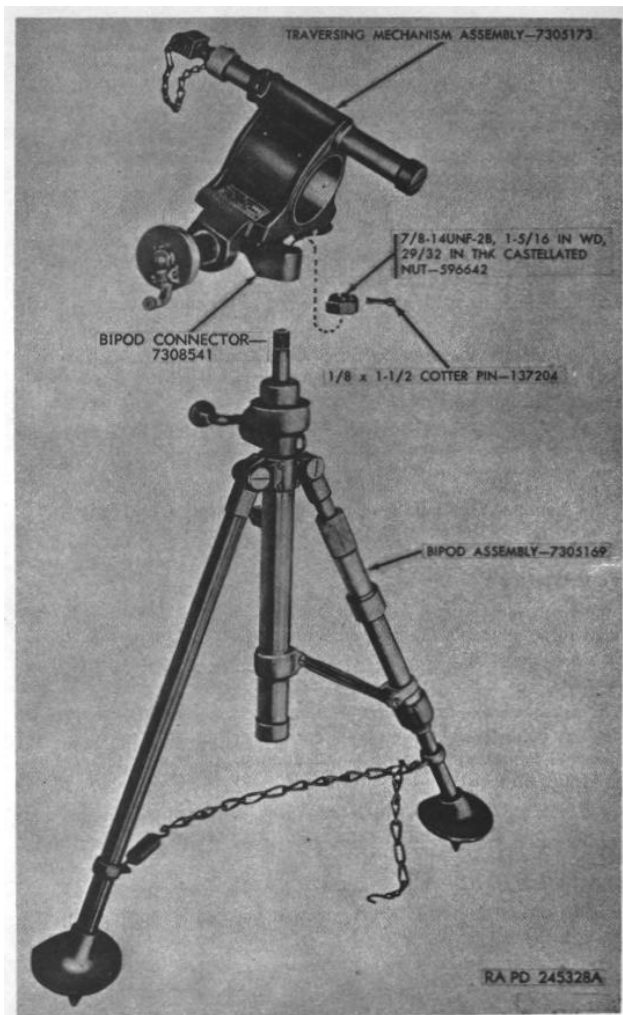
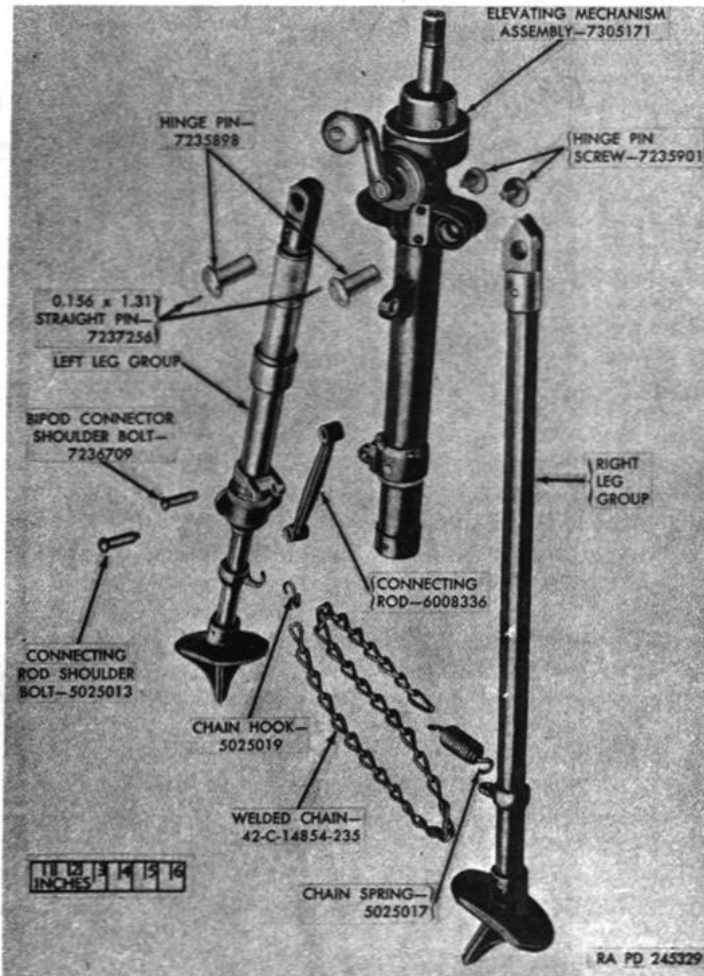
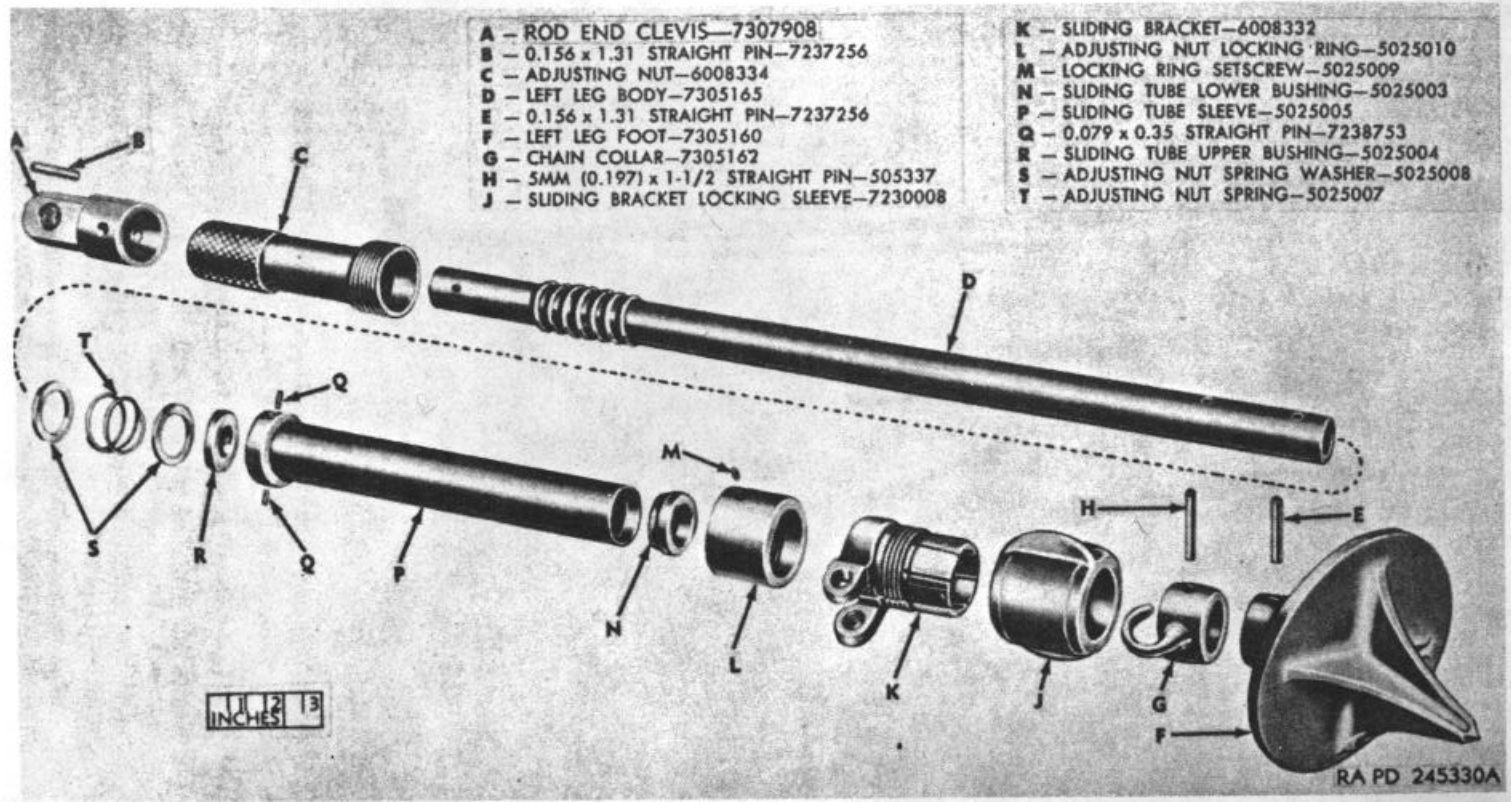
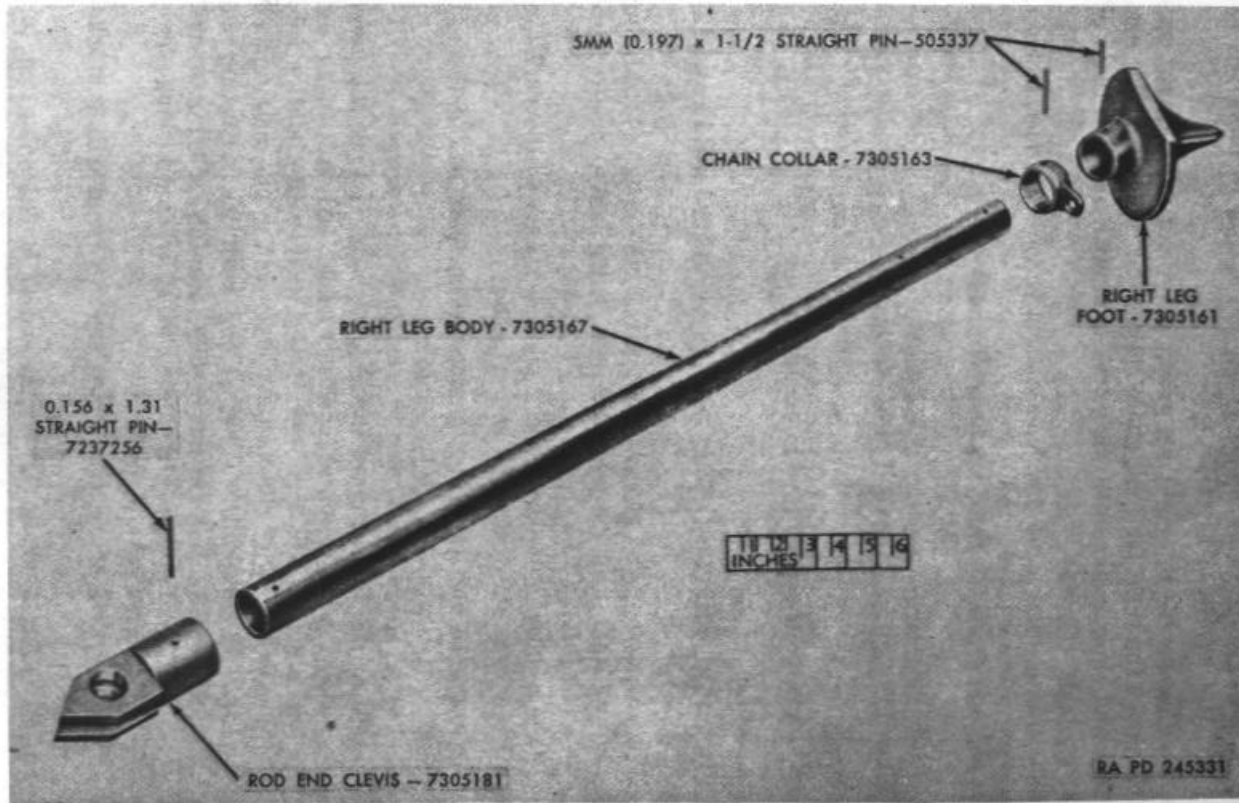

Figure 41. 81-mm mortar mount M23A1.
Figure 42. Bipod assembly 73505169-81-mm mortar mount M23A1-exploded view.
Figure 43. Left leg group-81-mm mortar mount M23A1-exploded view.
Figure 44. Right leg group - 81mm mortar mount M23A1-exploded view.
a. Remove cotter pin and unscrew castellated nut (fig. 41). Remove bipod assembly from bipod connector of the traversing mechanism assembly (fig. 41) by carefully tapping it with a soft metal hammer.
b. Remove stake and unscrew connecting rod and bipod connector shoulder bolts from both ends of the connecting rod (fig. 41). Remove welded chain, chain hook, and chain spring from right and left leg groups (fig. 42).
c. Unscrew the hinge pin screws (fig. 42) from the hinge pins and carefully pry the hinge pins from the elevating mechanism assembly to withdraw the right and left leg groups. Do not remove straight pins (0.156 x 1.31), unless they are to be replaced.
d. To disassemble the left leg group, proceed as outlined in (1) through (5) below.
**Note.** The key letters shown below in parentheses refer to figure 43.
- (1) Drive out straight pin (B) which secures the rod end clevis (A) to the left leg body (D) and remove the clevis.
- (2) Remove the locking ring setscrew (M) and unscrew the adjusting nut locking ring (L).
- (5) Slide the sliding bracket locking sleeve (J), sliding bracket (K), adjusting nut locking ring (L), sliding tube sleeve (P) with lower and upper bushings (N and R), adjusting nut spring (T), and adjusting nut spring washers (S) off the left leg body (D).
- e. To disassemble the right leg group, drive out the straight pins which secure the right leg foot, chain collar, and rod end clevis; heat leg foot and chain collar until the solder is melted, and pull them off right leg body (fig. 44).
Slide rod end clevis off right leg body (fig. 44).
- a. To assemble right leg group, proceed as outlined in (1) and (2) below.
- (1) Install rod end clevis on right leg body (fig. 44), aligning pin hole in clevis with pin hole in leg body. Secure with new 0.156 x 1.31 straight pin (fig. 44).
- (2) Assemble chain collar and right leg foot with new 5-mm (0.197) x 1 1/2 straight pins (fig. 44).
- b. To assemble left leg group, proceed as outlined in (1) through (7) below.
**The key letters shown below in parentheses refer to figure 43.**
- (1) Slide the following on the left leg body (D), in the order -listed: adjusting nut spring washer (S), adjusting nut spring (T), adjusting nut spring washer (S), sliding tube sleeve (P) with sliding tube lower and upper bushings (N and R) assembled (flanged end leading), adjusting nut locking ring (L) (larger opening leading), sliding bracket (K) (solid end leading), and sliding bracket locking sleeve (J) (threaded end leading).
- (2) Screw sliding bracket locking sleeve (J) on sliding bracket -(K).
- (3) Slide chain collar (G) (open end of hook leading) on left leg body (D). Drive in 5-mm (0.197) x 1 1/2 straight pin (H) through chain collar (G) and left leg body (D).
- (4) Slide left leg foot (F) on left leg body (D) (spike pointing in same direction as chain hook on collar) and drive in
0.156 x 1.31 straight pin (E) through left leg-foot and left leg body.
(5) Slide adjusting nut (C) (external threaded end leading) on left leg body (D). Screw adjusting nut into adjusting nut locking ring (L) and secure with locking ring setscrew (M).
(6) Secure rod end clevis (A) to left leg body (D) with new 0.156 x 1.31 straight pin (B).
c. Secure left leg group and right leg group to elevating mechanism assembly with hinge pins and hinge pin screws (fig. 42). Make certain that hinge pin is held secure by 0.156 x 1.31 straight pin through pin hole in hinge pin head. Screw hinge pin screw into hinge pin.
d. Secure connecting rod to left leg group and elevating mechanism assembly with connecting rod and bipod connector shoulder bolts (fig. 42). Stake threaded end of both bolts.
e. Install welded chain with chain hook to left leg group and chain spring to right leg group (fig. 42).
f. Insert threaded end of bipod assembly through bipod connector and secure with 7/8-14UNF-2B, 1 5/16-inch wide, 29/32-inch thick castellated nut and 1/8 x 1 1/2 cotter pin (fig. 41).